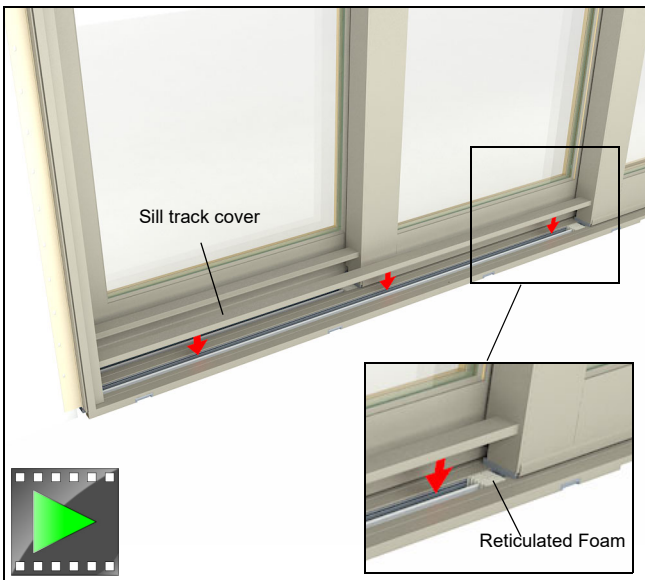

Figure 154
1. Place reticulated foam in sill track cover on end near pane(s) placement. Install sill track covers using a soft rubber mallet. See figure 154. *Note: Sill cover is tucked under edge of panel.*